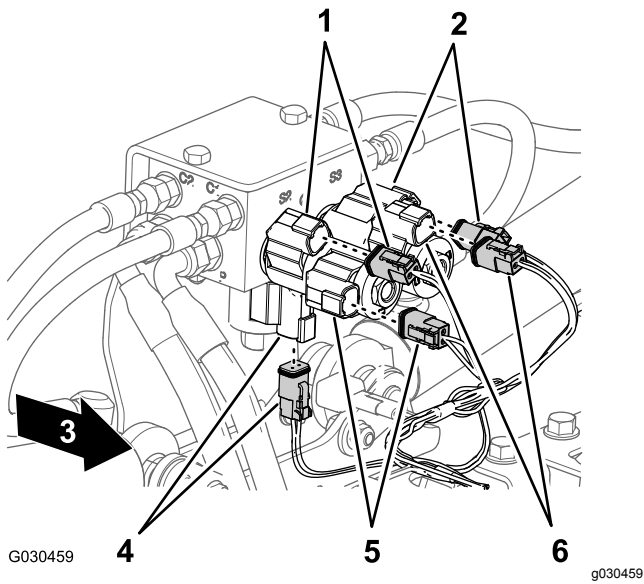

Figure 57
- At the back of the machine, disconnect the following 2-socket connectors (Figure 57) for the lift-cylinder manifold as follows: